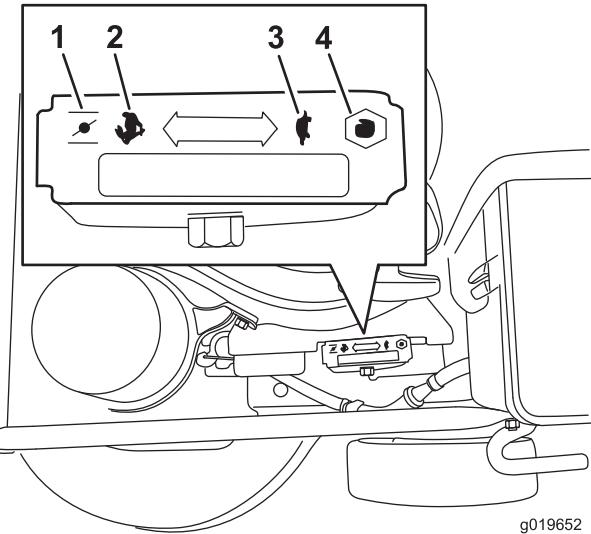

Figure 11
3. Move the throttle control to the **Choke** position (Figure 11).